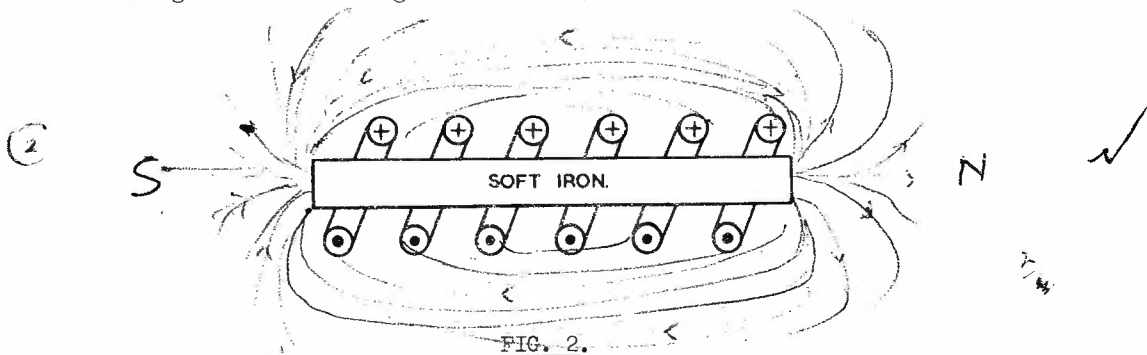

FIG. 2.
STEP 5. Increase the current through the solenoid by removing the series resistor. Using the compass, plot and record the field pattern on Fig. 2. Observe the change in field strength from STEP 4.